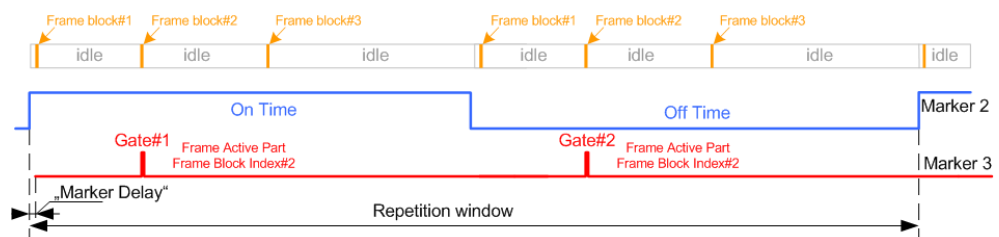

Figure 9-19: Example: Marker configuration for multi-gated baseband power measurements.
3. Select "IEEE 802.11 WLAN > Marker" and enable the two required marker signals. The Figure 9-19 shows an example of a possible marker configuration for measuring the baseband power of the second frame block.